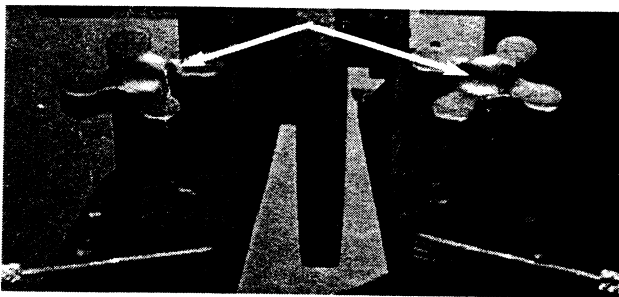

Figure 45
3. Slightly loosen the 2 - twin cutter arm lock knobs (**Figure 45**). Turn each micrometer dial on the twin cutter to adjust the individual tool bits until they just touch the rotor (**Figure 46**). Set the micrometer sleeves to zero (**Figure 47**).